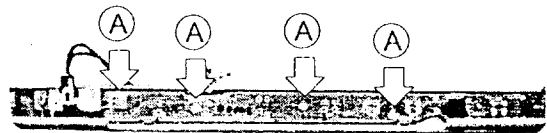

Figure 2-7 Remove the Control Board
1. Remove the four screws from the Control Board. Refer to the figure 2-7 (A).